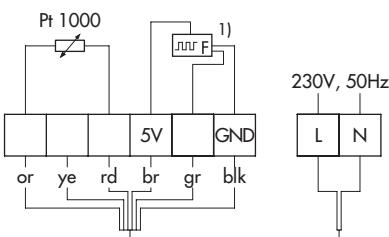

Fig. 3 : Wiring of Type 5757 (default)
The default setting (WE) is configured for an application with a Pt 1000 flow temperature sensor and water flowmeter (see Fig. 3).